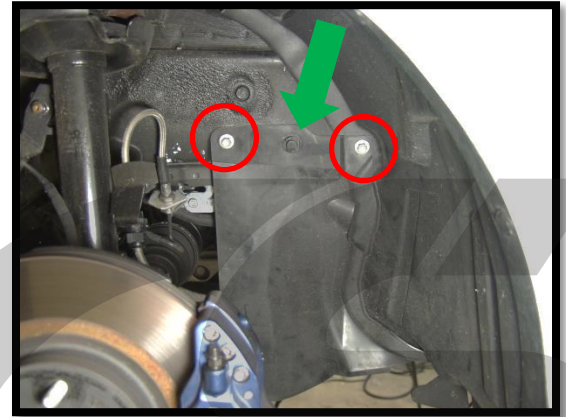

Figure 2a
- c) Remove the passenger's side fender well splashguard. Use a 10mm socket wrench to remove the two (2) screws (red circles) and a flat blade screw driver to remove the clip (green arrow in Figure 2a).